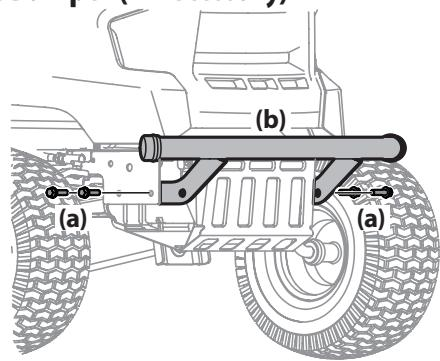

Figure 10
2. Position the bumper brackets to the **inside** of the tractor's frame and secure it in place with the four hex screws (a). Torque to 332-405 in-lbs (37.5-45.75 N-m). See Figure 10.